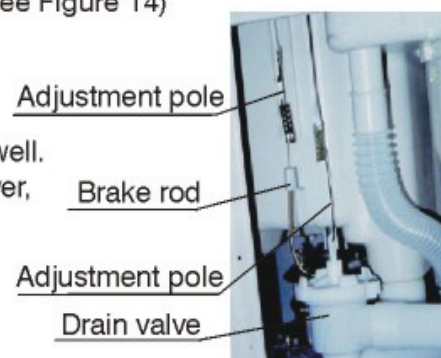

Figure 14
**To adjust unbolted height of drain valve pole** (see Figure 14)
**To adjust brake mechanism** (see Figure 14)